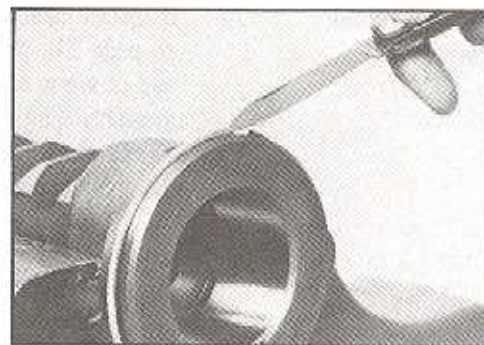

Figure 65
21. Position the rack piston (35) in a vise clamping against unmachined surfaces. Cut and remove seal ring (34A) and o-ring (34B) from rack piston. SEE FIGURE 65. If the rack piston has cast metal ring (34) remove it only if it is to be replaced. Discard removed rings.